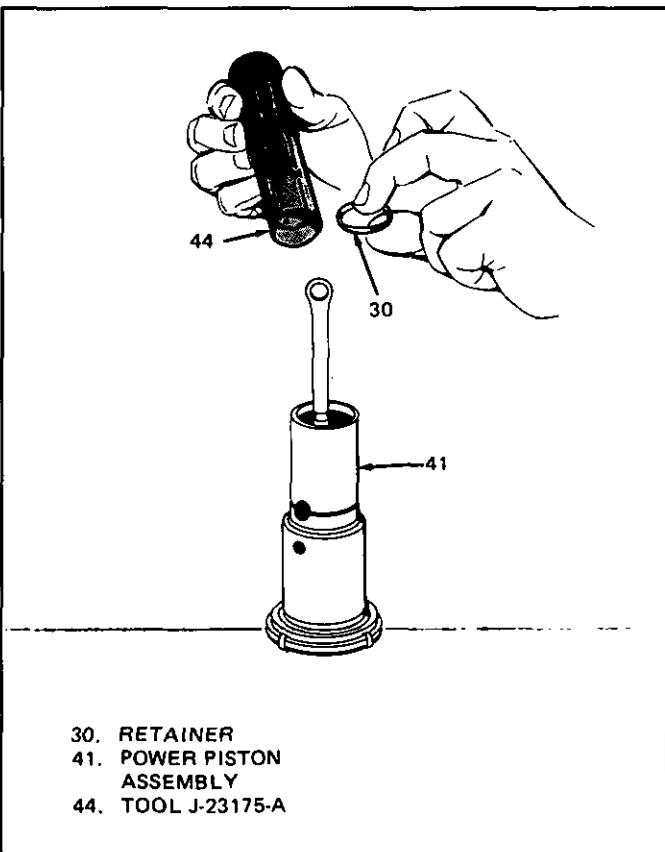

Figure 13 Retainer Assembly
1. Air valve pushrod assembly (32) into power piston (41)
2. Filter (29), O-ring (31) and retainer (30) as shown in Figures 13 and 14 using J-28458 Installer